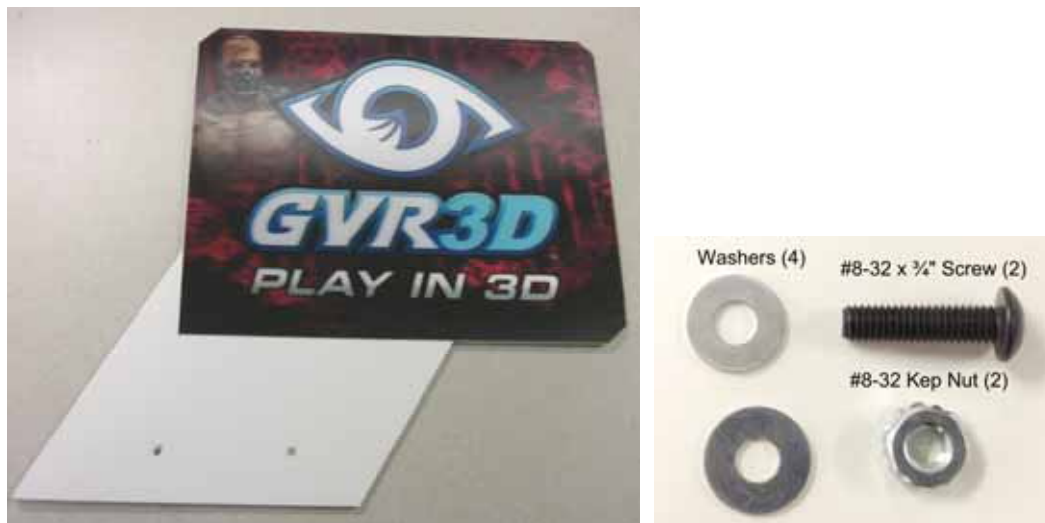

Figure 9: Optional GVR3D Sign and Mounting Hardware
1. Refer to Figure 9 for the hardware used to mount the GVR3D Sign. Position the GVR3D Sign on the top right corner of the marquee assembly so that the pre-drilled holes align.
2. Place a washer on each of the two (2) #8-32 x 3/4" screws and insert them through the pre-drilled holes. Secure the sign from the back of the marquee assembly with a washer and Kep nut.